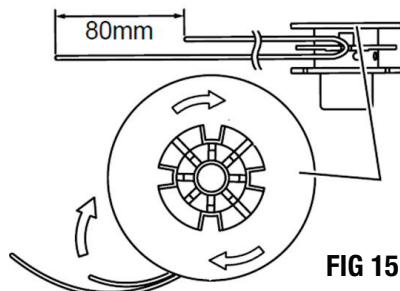

FIG 15
LINE REPLACEMENT (FIG 15)
- Hook the center of new nylon cord into the notch in the center of the spool, with one end of the cord extending about 3-1/8" (80mm) more than the other. See Fig 15.